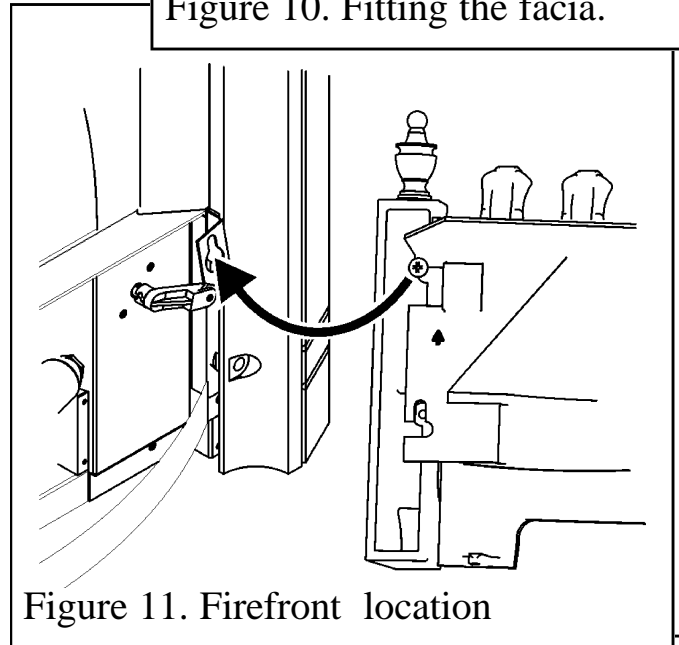

Figure 11. Firefront location
3. Hook the firefront on to the fascia as in figure 11.
3. Swing the bottom of the firefront casting forward and down. Gently pull the casting away from the heater (Reverse of that shown in figure 11).